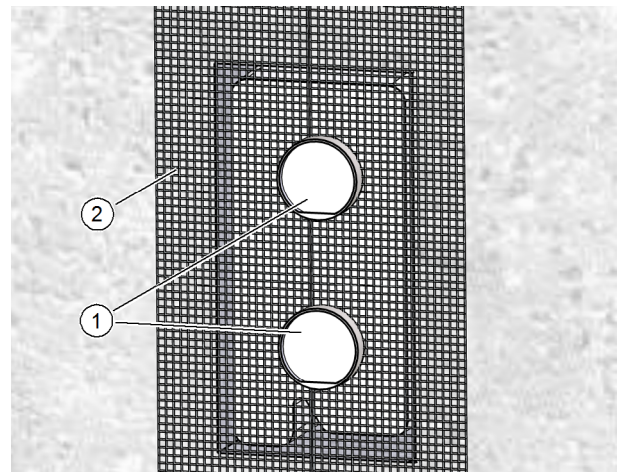
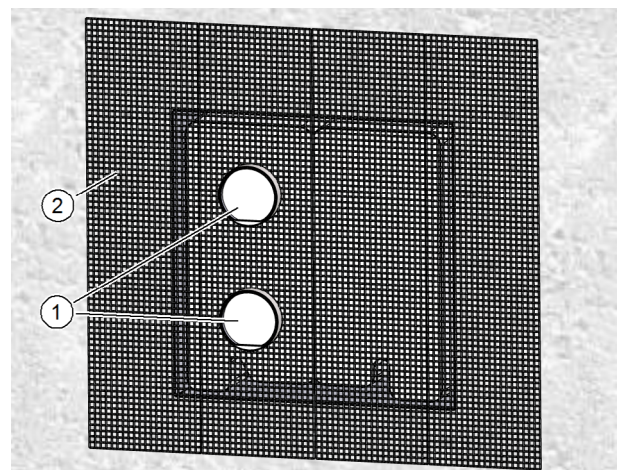

Fig. 18: Plastering the wall box **without** filler piece
Fig. 19: Plastering the wall box **with** filler piece
- ▶ Insert the protective sleeves (item 1 in Fig. 18 and Fig. 19). They should extend beyond the solid wall so that they will end flush with the subsequent plaster coat. The protective sleeves provide the bonding surface for the external plaster.
- ▶ Apply the plaster scrim (item 2 in Fig. 18 and Fig. 19) to the outside of the wall box, to the masonry and to the facade insulation.